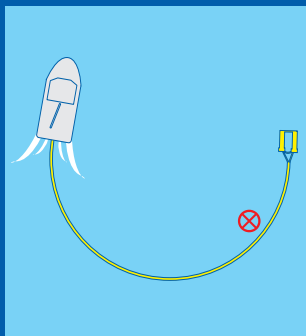

Fig. 2
2. Towing the Lifesling3 (Fig. 2)